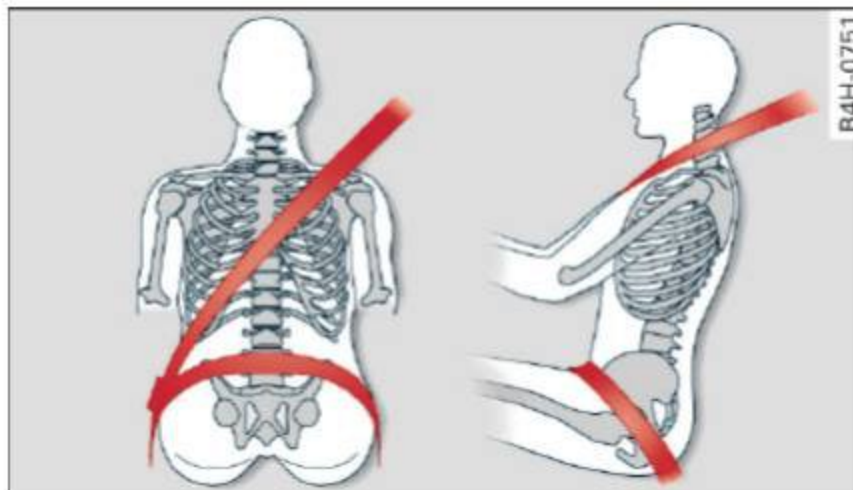

Fig. 128 Safety belt position
- The shoulder belt should lie as close to the center of the collar bone as possible and should fit well on the body. Hold the belt above the latch tongue and pull it evenly across the chest so that it sits as low as possible on the pelvis and there is no pressure on the abdomen. The belt should always fit snugly ⇒ *fig. 128*. Pull on the belt to tighten if necessary.
- The lap belt portion of the safety belt must be positioned as low as possible across pelvis and never over the abdomen. Make sure the belt lies flat and snug ⇒ *fig. 128*. Pull on the belt to tighten if necessary.